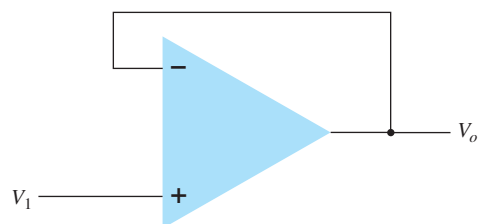

FIG. 10.70
11. What output voltage results in the circuit of Fig. 10.70 for $V_1 = +0.5$ V?